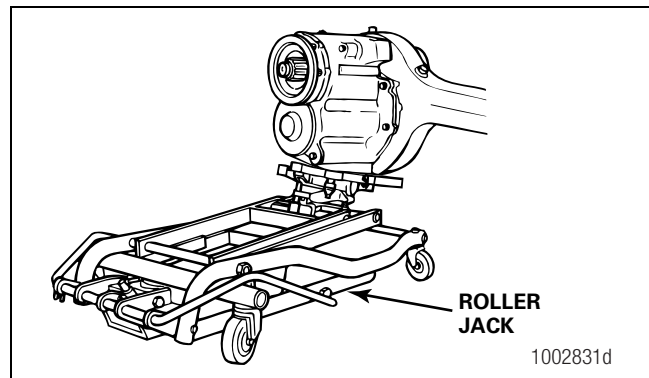

Figure 5.113
7. Use a hydraulic roller jack or a lifting tool to install the carrier into the axle housing. Figure 5.113.